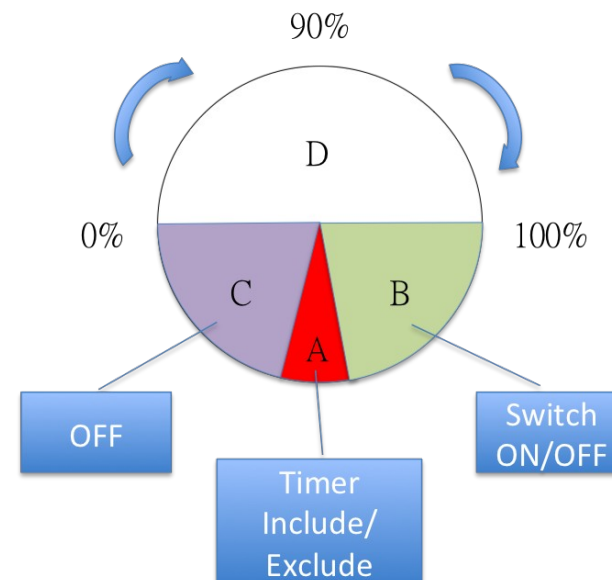
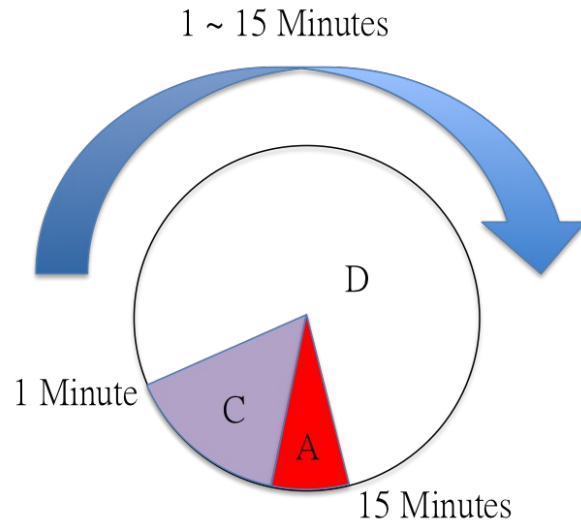

Figure 1
Figure 2
In the first time, add the device into the Z-Wave™ network. Make sure the primary controller is in the add mode. And then power on the device through micro USB. The device will auto start the NWI (Network Wide Inclusion). Red LED will flash every second and continue 30 seconds. And it should be included in 5 seconds. Red LED will light ON one second. Rotating to area A (shown in Fig. 1) and touch 3 times can abort NWI mode.
1. Include: Pointing the arrowhead to area A first (shown in Fig. 1). Pressing the button three times within 1.5 seconds. The red LED will light up for 1 second if succeed.
This device can control dimmers in group 2 using three ways: Dimmer, Timer, and On/Off Switch. Point the arrowhead to area A (shown in Fig. 1 and Fig. 2) then hold the button, release after the red LED go out. One beep means entering Timer mode or two
This device is able to set dimmer level by rotating to different angle. When the status is Off, surround LED will not work except in area A (shown in Fig. 1). Rotate the device to area B, C, D (shown in Fig. 1) then touch the button can set the status to On. After a short beep, the surround LED will change gradually from blue to red in area D. It will send Basic set command automatically 1 second after rotating stop. To turn Off the device in group 2, you can rotate PSR04 to area C or touch the button again.